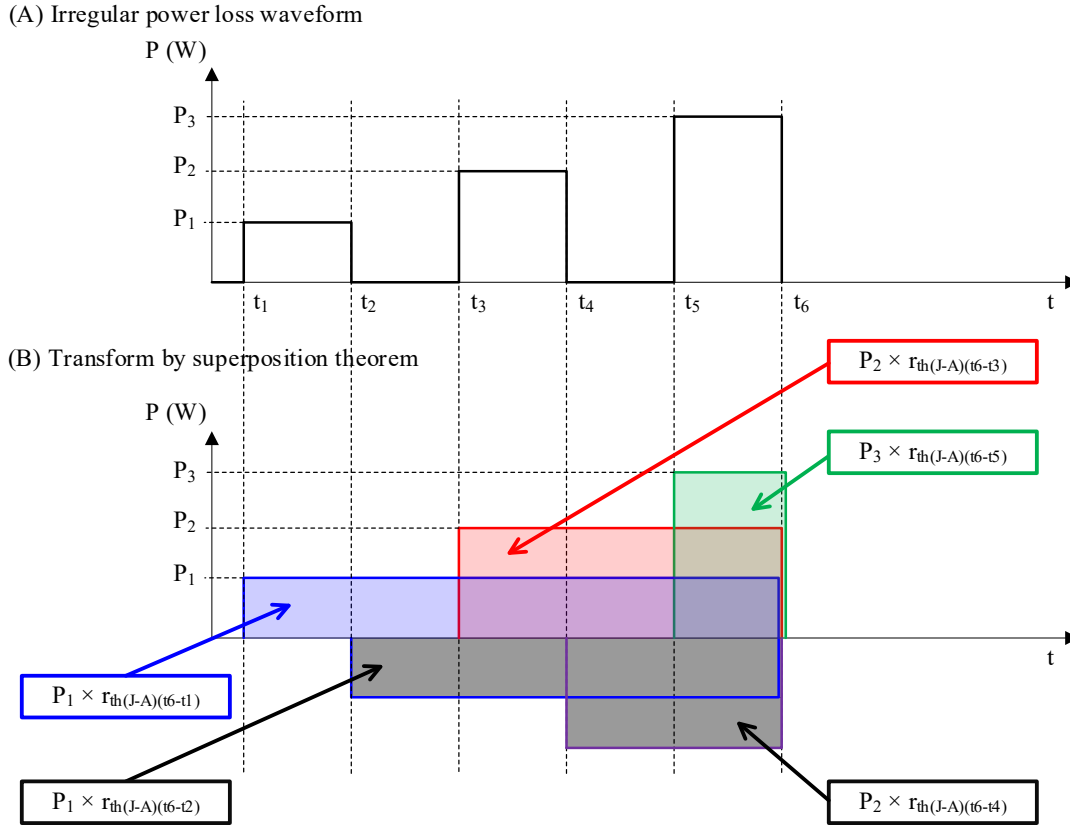

Figure 3-4. Superposition Theorem
(A) in Figure 3-4 shows the calculation of the junction temperature,  $T_J$ , when an irregular square wave power loss occurs in the diode. As shown in (B) in Figure 3-4,  $T_J$  for each block is calculated by using the superposition theorem.